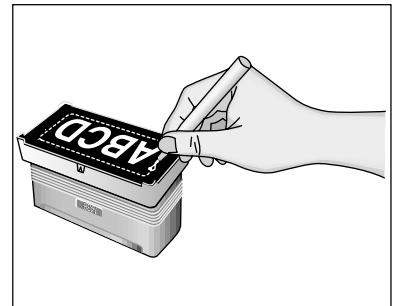

figure 2
- You can also use the correction pen to make corrections if ink has run from the space between the glossy area and the non-glossy area around the printing surface (see figure 2).